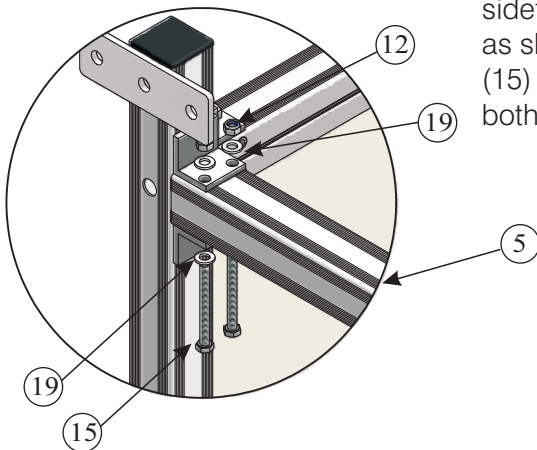
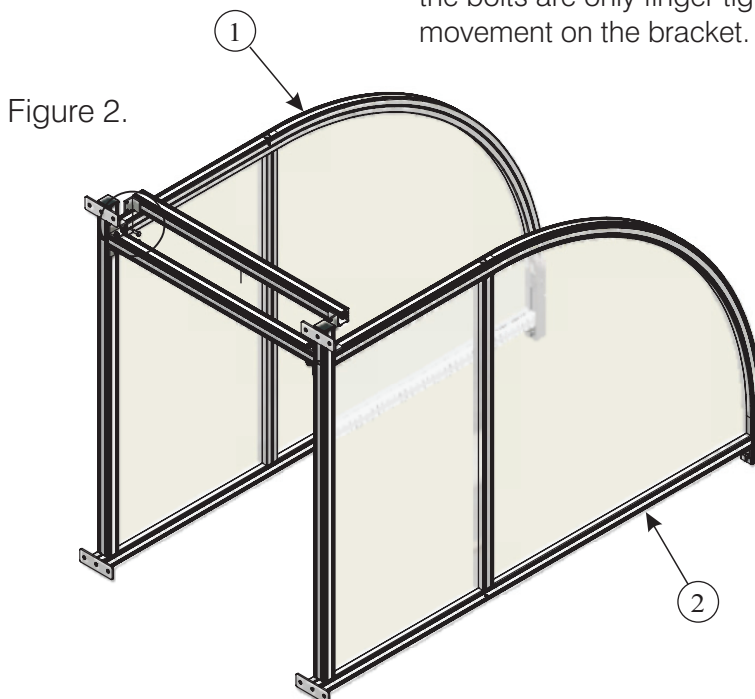

Figure 1.
Figure 2.
1.) Attach the backbar (4) by sliding in-between the brackets on the sideframes and line up the holes. You will need 3 people for this as the sideframes need to be held with the uprights face down on the floor, as shown in Figure 2. When the backbar is in position, use 2 x BOL472 (15) to attach to the sideframes (Figure 1). Fix with a plastic washer both sides (19) and a nylock nut (12).